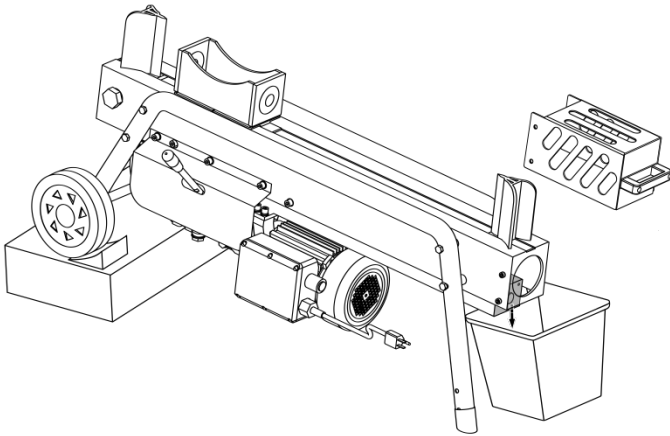

FIGURE 7.
- Remove the dipstick and check to see if the oil level is between the first and second groove on the dipstick (see *FIGURE 7*).
NOTE: The oil level should be between the two grooves around the bottom of the dipstick as shown in *FIGURE 7.*